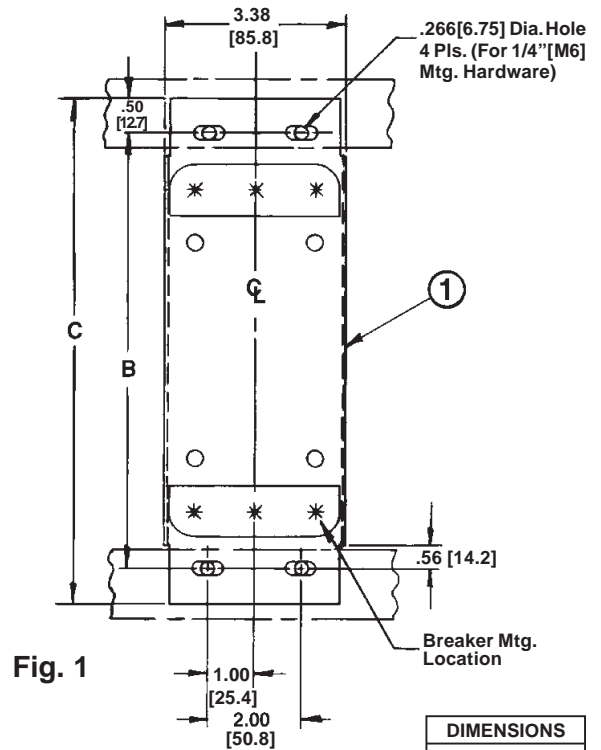

Fig. 1
Mounting Preparation: (Figs. 1 & 2)
- If the switchboard mounting plate (1) is to be used, provided required drilling as shown in Fig. 1.